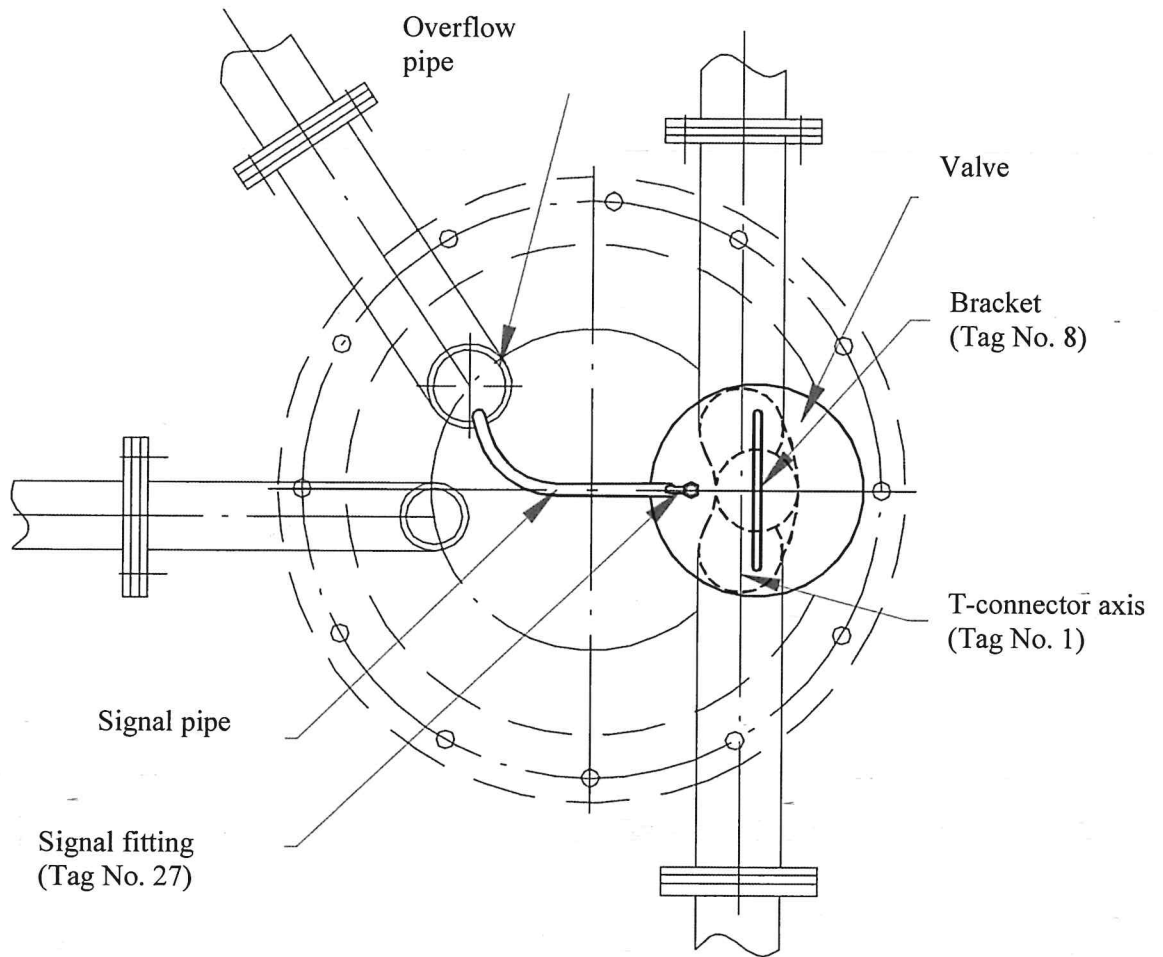

Fig. 4 - Location of the valve on the distribution collector.
- 2.1.3 Moisten rings (Tag No. 16) of the fitting (Tag No. 15) with water. Put the T-connector (Tag No. 1) with the fittings (Tag No. 15) on the adapting pipes (Tag No. 20) and settle it until it stops by a manual effort evenly, without cocking, while the signal fitting (Tag No. 27) should be directed towards the overflow pipe (Fig.4).
3.2.2.2 Secure the valve through the soft jaws in the vise by the upper part of the T-connector (Tag No. 1). Unscrew the nut (Tag No. 25) (specialized wrench), unscrew the FSD (Tag No. 3) by a manual effort from the adapting pipe (Tag No. 2) holding on to the reflector (item 7). Replace the ring (Tag No. 26) with a new one, preventing it from twisting. Moisten it with water. Screw the FSD (Tag No. 3) on the adapting pipe (Tag No. 2) until it stops. Place the signal fitting (Tag No. 27) perpendicular to the axis of the tee in the direction of its concave part according to the figure 4. Avoiding slipping of the FSD (Tag No. 3) behind the reflector (Tag No. 7) tighten the nut (Tag No. 25) until it stops rightly (specialized wrench).